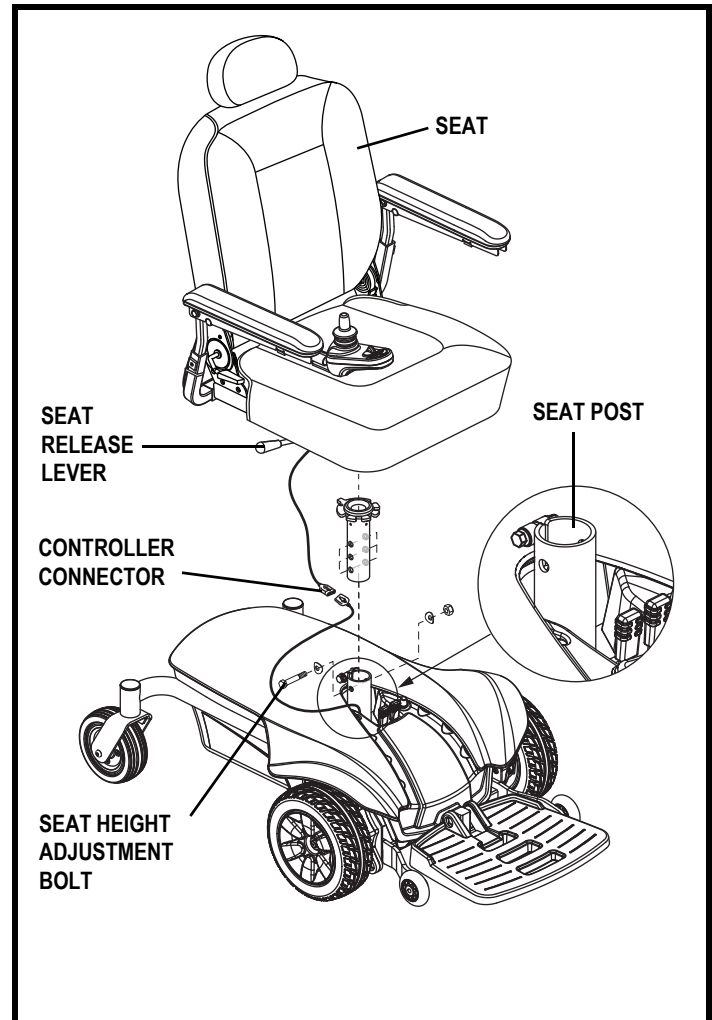

Figure 12. Seat Height Adjustment
3. Disconnect the controller connector from the power base. See figure 12.
4. Disengage the seat release lever. See figure 12.
6. Loosen the hardware at the rear of the seat post. See figure 12.
7. Remove the seat height adjustment bolt, washers, and nuts from the seat post. See figure 12.